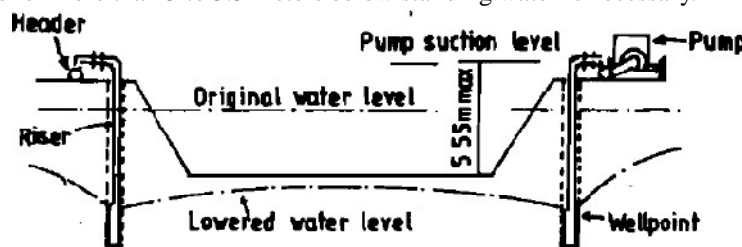

Figure 4-Wellpoint on both sides of Wide Excavation
- 4) **Systems:-** It is common practice to add well points in "ring" or "progressive" systems. When digging trenches, the "Progressive system" is used. As more well points are drilled and connected ahead of the section where water is being pumped out, the pipes are placed along the sides of the excavation. The pumping process continues in one area as the well points are added and the space is filled back in once it's completed. Figure 4 shows an example of this setup.